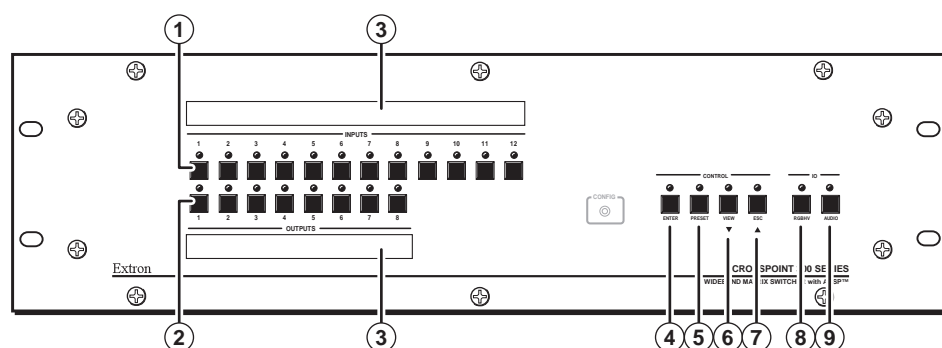
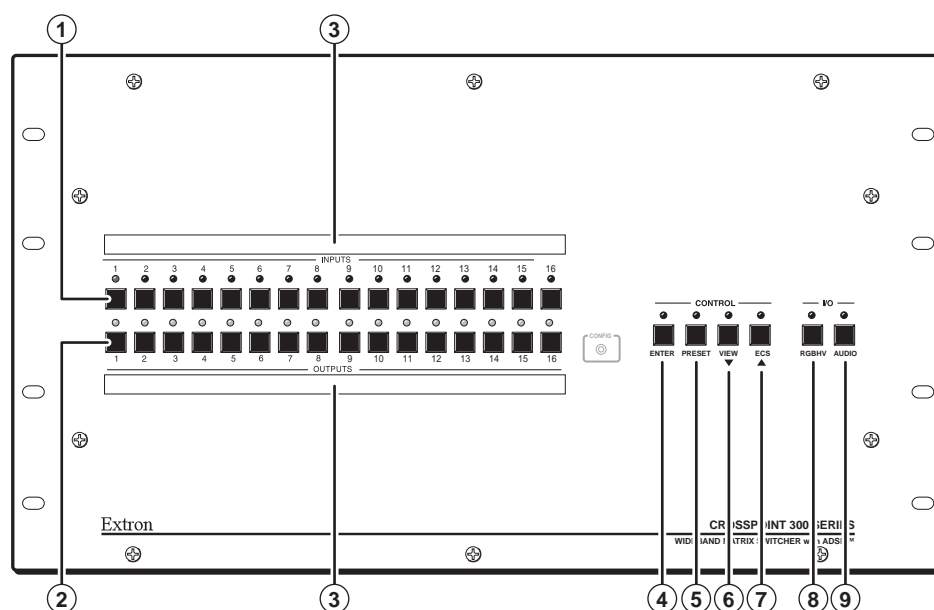

Figure 3-1 — Front panel, CrossPoint 300 128 HVA
Figure 3-2 — Front Panel, CrossPoint 300 1616 HVA
The front panel controls (figure 3-1 and figure 3-2) are grouped into two sets. The input and output buttons and LED indicators are grouped on the left side of the control panel. The control buttons and input/output (I/O) selection buttons and indicators are grouped on the right side of the panel.
- The CrossPoint 300 84, 88, 124, and 128 have 12 input buttons and 8 output buttons (figure 3-1).
- The CrossPoint 300 816, 168, 1212, and 1616 have 16 input buttons and 16 output buttons (figure 3-2).